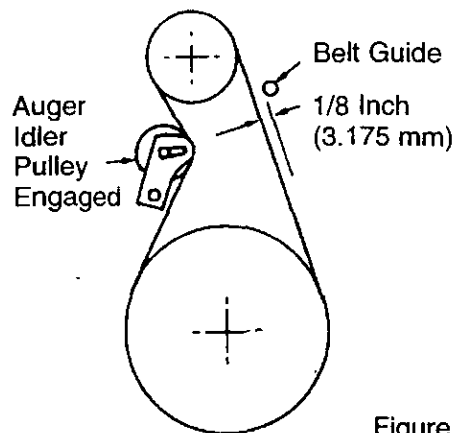

Figure 33
- Measure the distance between the **belt guide** and **auger drive belt**. The **correct distance** is 1/8 inch (3.175 mm). See Figure 33.